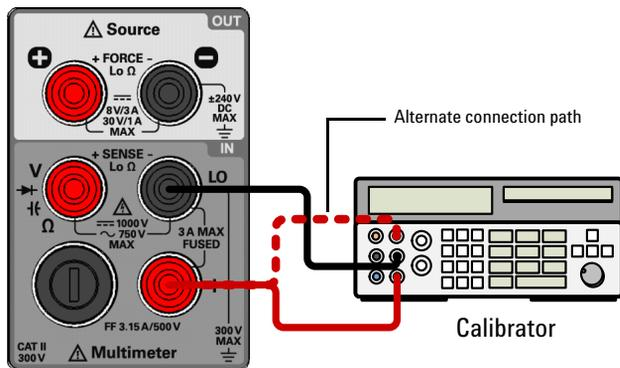

Figure 5-3 Test setup for DC current and AC current gain verification
- 1 Connect the calibrator to the front panel **I** (red) and **LO** (black) input terminals (see Figure 5-3 on page 147).